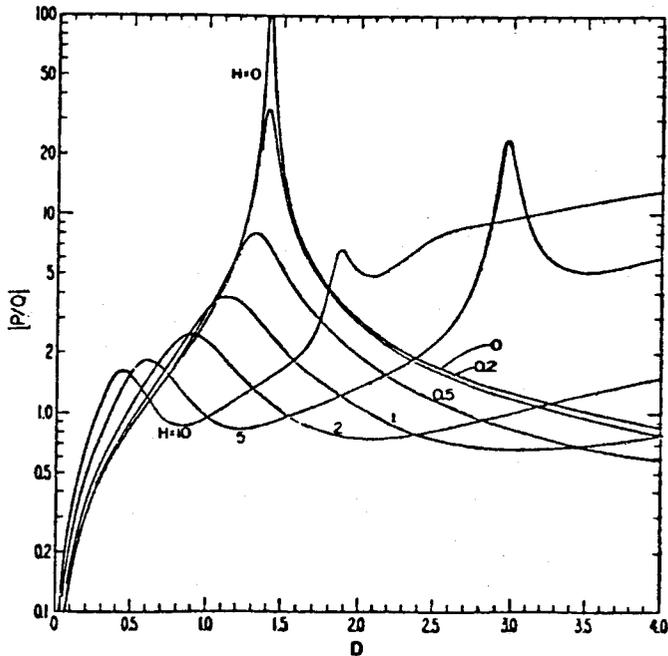
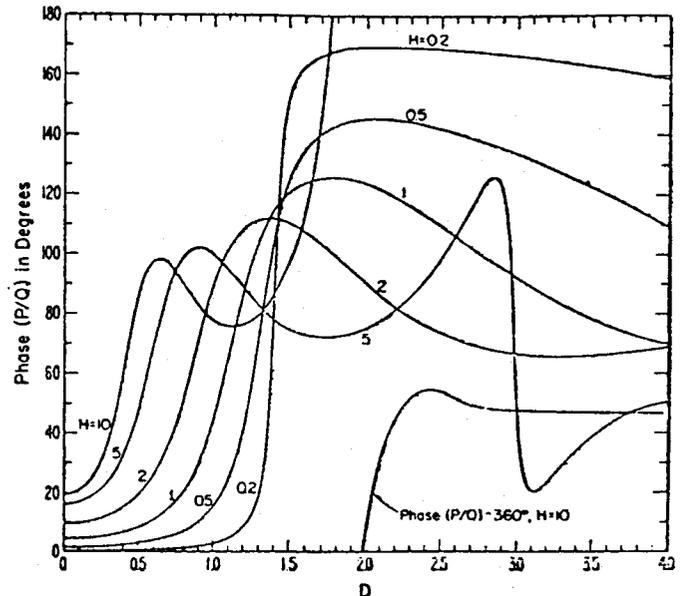

Figure 2. The ratio of the horizontal/vertical magnetic fields on the surface over a horizontal buried loop antenna.
Figure 3. The difference in phase between the horizontal and vertical magnetic fields on the surface over a buried loop antenna.
Eight taps were provided along the line in the cave, either at important intersections or near particularly obnoxious spots on main routes. When a cave party clips a conventional phone handset onto the parallel wire pair, a 40 mA current loop is completed which latches an SCR. This powers a ring generator (Figure 2), which produces a high-low tone with about a 10 Hz shift rate, interrupted about every 2 seconds. This is heard loudly at the receiver speaker, and stays latched until the field station handset is picked up. Picking up the field station handset completes the speech loop, and also enables the transmitter and starts a logging recorder.
The subject has been treated theoretically by J.R. Wait (5). Two graphs from the paper are shown here (Figs 2 & 3). The conventional method of measuring depth assumes $H = 0$, and P/Q is measured directly as $1/\text{Tangent}(\text{antenna angle at null})$. In the real world, as H increases (due to increasing depth of transmitter, or increasing conductivity of the ground) the null angle of the antenna is harder to detect as the phase angle of P/Q deviates from 0° or 180° (Fig 3). Moreover, the value of P/Q estimated from the angle of minimum signal gives increasing error in the depth estimate if it is used in the equations which assume $H = 0$. (Fig. 2)